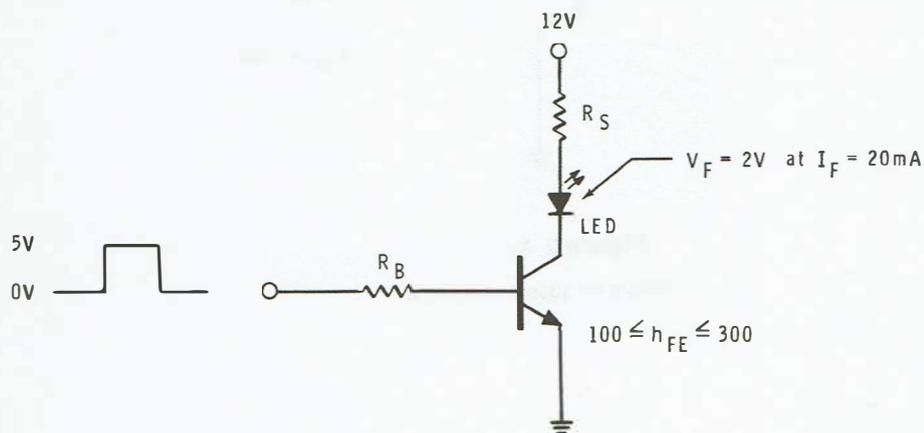

Figure 2-40
1. In Figure 2-40, R_S should equal:
2. In Figure 2-40, R_B should equal: